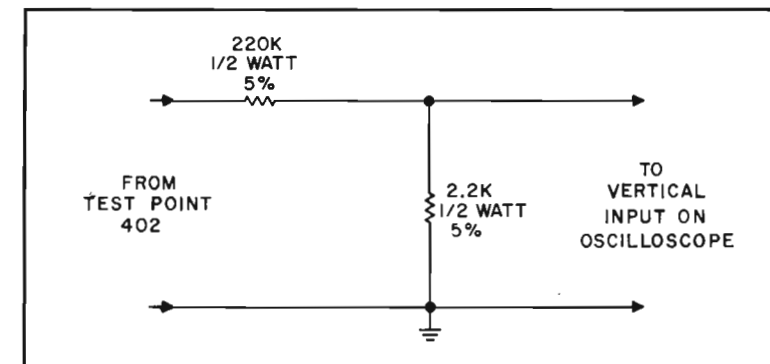
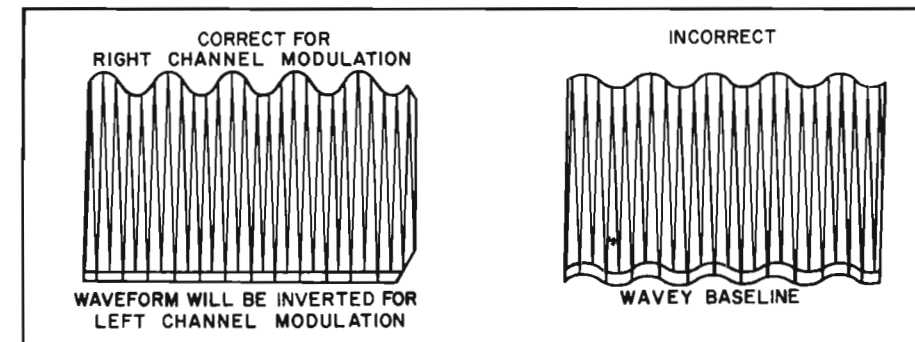

Figure 2. Voltage Divider Probe.
Figure 3. Waveform At Test Point 402.
- (9) Run the dial cord through the slot in the rim of the drive drum and set in the underside of groove 1 (see side view).
- (10) Pull dial cord taut and wrap $1\frac{1}{2}$ turns around the fly-wheel shaft.
- (11) Rotate the drive drum to its maximum clockwise position, allowing the dial cord to follow the grooves in the drum (Figure 2). Keep the dial cord taut during this procedure.
- (12) Guide the dial cord over the top of the drive drum and place it in groove 3 (see top view).
- (13) Run the dial cord through the slot in the drive drum and bring it under and around the beveled washer. Pull the dial cord taut until the spring stretches open. Tighten the machine screw to hold the dial cord under the washer.
- (14) Rotate the drive drum to its maximum counterclockwise position (Figure 3).
- (15) Run the loose end of the dial cord out through the slot in the drive drum and place it in groove 3 (see side view). Guide the dial cord around pulleys A and B.
(3) Adjust generator output voltage and frequency to observe IF response curve. Use as low a generator output as possible.
(4) Turn top core of Z302 on IF amplifier board fully out.
(5) Align top and bottom cores of Z303, bottom core of Z302, and top and bottom cores of Z301 on IF amplifier board, and core of L505 on front end for maximum gain and symmetry (see Figure 3). Repeat alignment until maximum gain and symmetry are obtained.
(6) Align top core of Z302 on IF amplifier board for maximum gain and symmetry (see Figure 2). Realign slightly top and bottom cores of Z302 for maximum gain and symmetry.
(7) Connect DC VTVM, set to 1.5-volt range, through a 100K to Test Point 302. Set generator to 10.7 MHz (Mc) with no sweep.
(8) Align top core of Z304 on IF amplifier board for reading on DC VTVM of 0 ± 0.2 VDC.
(9) Connect scope to LEFT or RIGHT CHANNEL RCDR HIGH jack. Set generator for sweep.
(1) Connect 455-kHz (kc) sweep generator to pin 5J on the AM RF board. Connect scope's vertical input through 1K ohm resistor to Test Point 603 on the 455-kHz (kc) IF amplifier board. Connect a 0.005- μ F capacitor between the scope input and pin 6H on IF board.
(2) Adjust generator output voltage and frequency to observe IF response curve. Use as low a generator output as possible.
(3) Align top and bottom cores of Z601 and Z602 on 455-kHz (kc) IF amplifier board and top and bottom cores of Z503 of AM RF board for maximum gain and symmetry (similar to Figure 3).